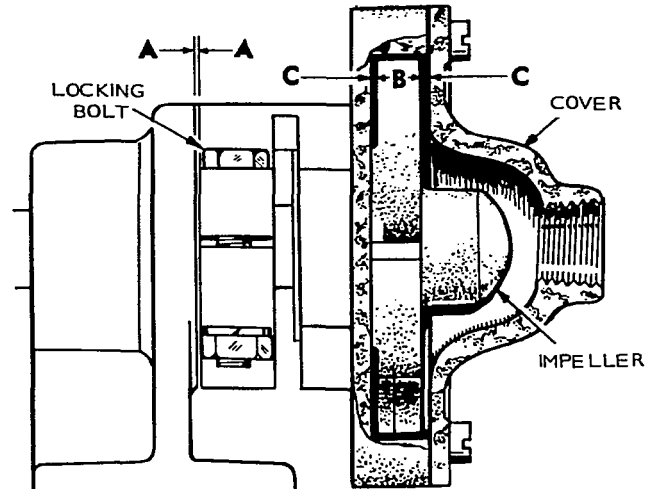

FIGURE 7d. WATER PUMP CLEARANCES
After the pump has been assembled (see Figure 7d.), the impeller (B) must be centered in the body cover space (C-C). Adjustment is made by moving the pump body fore and aft until the shaft can be rotated freely by hand without binding. The pump must be